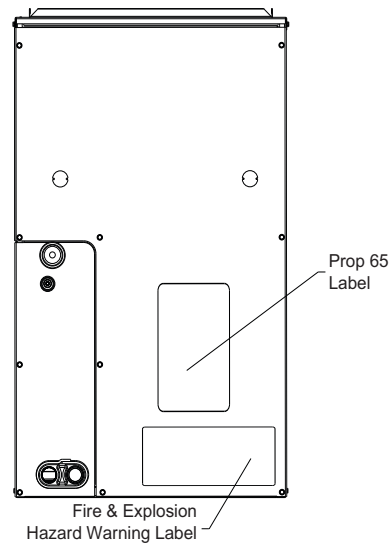

Fig. 18 – Label Placement on Casing
**NOTE:** Attached to the literature assembly is the Fire and Explosion Hazard warning label for this product. Apply this label on the outside front of the furnace coil casing if one does not exist on the casing. (See Fig. 18)